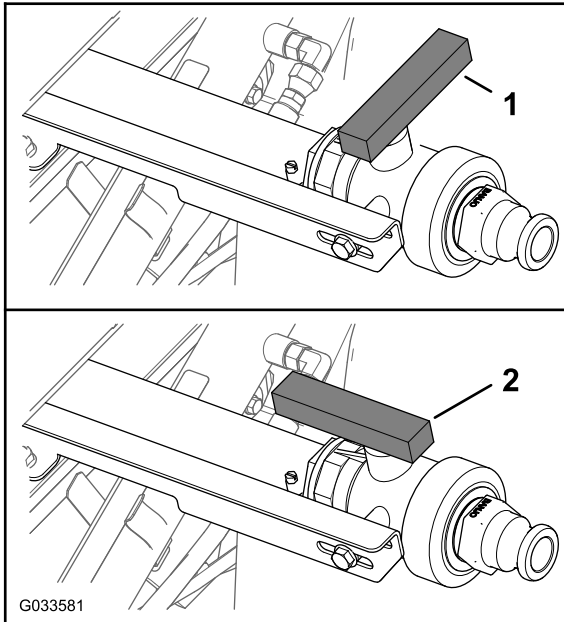

Figure 83
3. Open the valve to drain all unused material from the tank(Figure 83).
4. Close the drain valve (Figure 83).